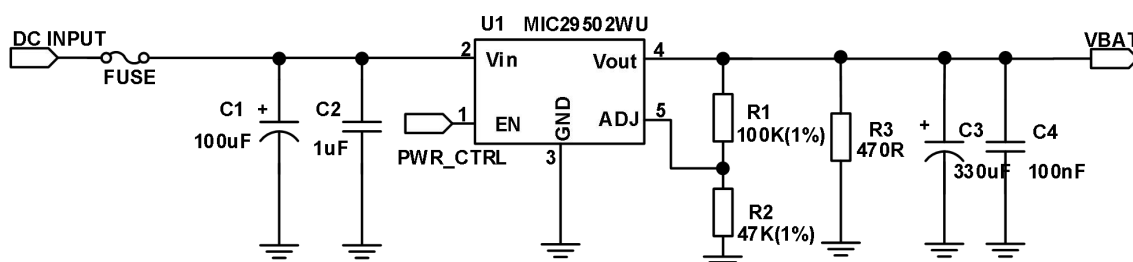

Figure 6: Linear regulator reference circuit
1. An additional minimum load of R3 is required in figure6, to ensure it works in light load in hibernation and shutdown mode. For details on the minimum load, please refer to the MIC29502WU specification.